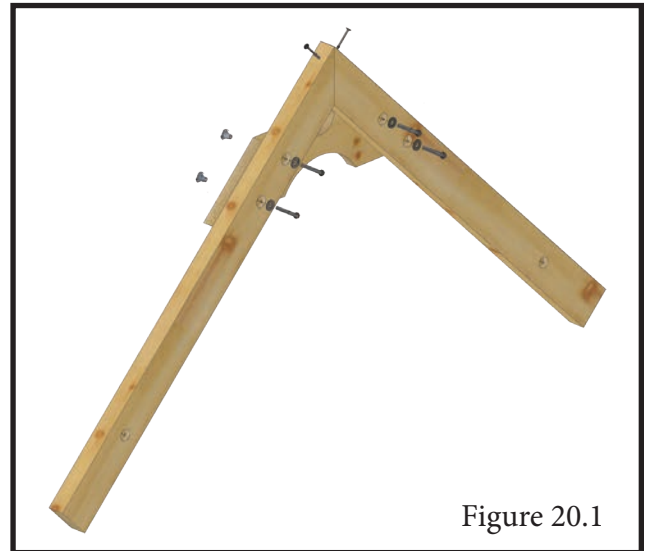

Figure 20.1
20.1 Fasten Roof Rafter-L and Roof Rafter-R to Roof Brace with 5/16" x 2" Hex Bolts with 5/16" washers into T-Nuts as shown in Figure 20.1. Repeat for opposite peak side.